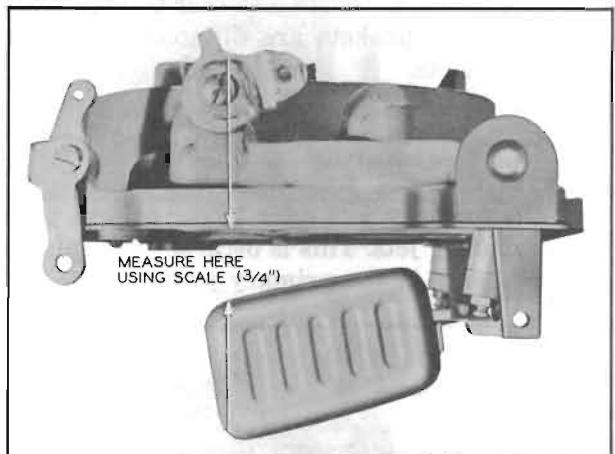

Figure 3-53—Checking Float Drop
11. *Adjust Float Drop.* With air horn held in upright position, measure vertical distance from air horn gasket to outer end of each float using a scale. Bend float arm tang as required to obtain $\frac{3}{4}$ " measurement. See figure 3-53.